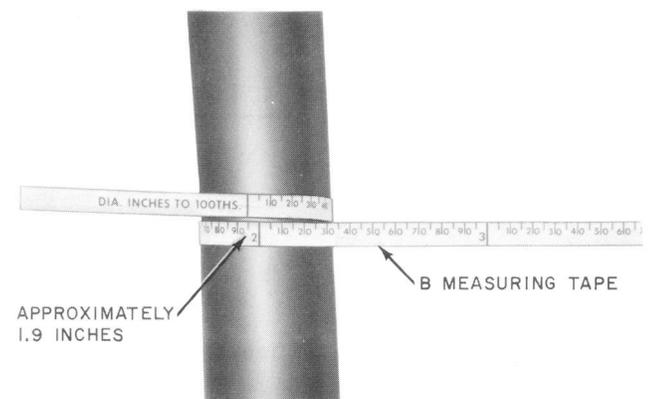
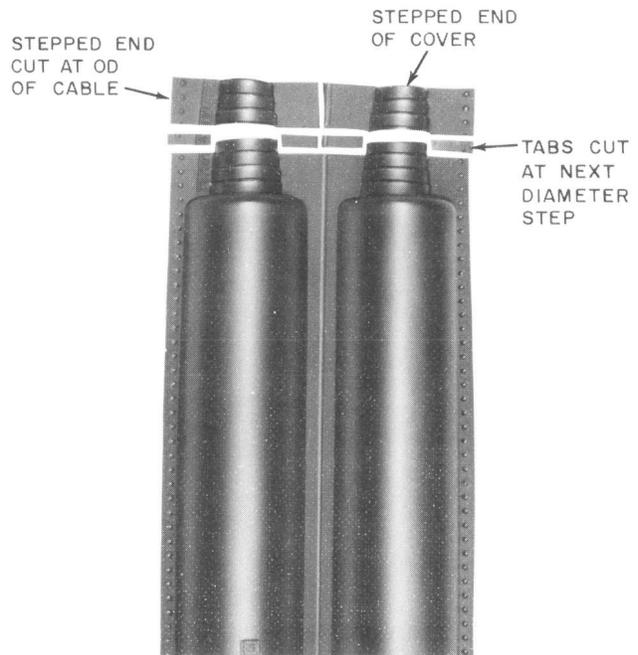

Fig. 2—Measuring Cable Diameter
Fig. 6—Preparing Closure Cover
4.01 At the sheath opening, using a B measuring tape (Fig. 2) determine the diameter of the cable. Select the required closure as determined by the cable diameter. (See Table A for the type closure as determined by the cable diameter.)
4.05 Measure the diameter of the cable (Fig. 2) and at the corresponding step, at each end of the closure cover, using tabbing shears or splicer's scissors, cut the ends from the closure cover (Fig. 6). At the next diameter step, tab the closure cover as illustrated in Fig. 6.
5.01 At the sheath opening, using a B measuring tape (Fig. 2), determine the diameter of the cable. Select the required closure as determined by the cable diameter (see Table A).